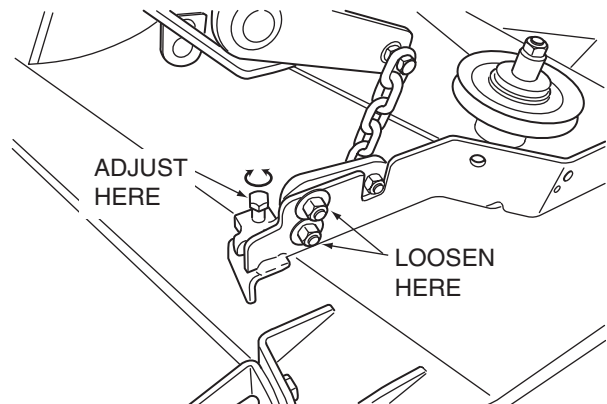

Figure 6-4. Cutter Deck Level Adjustment
1. On the front LH side of the cutter deck locate the cutter deck level adjusting bracket. See Figure 6-4.